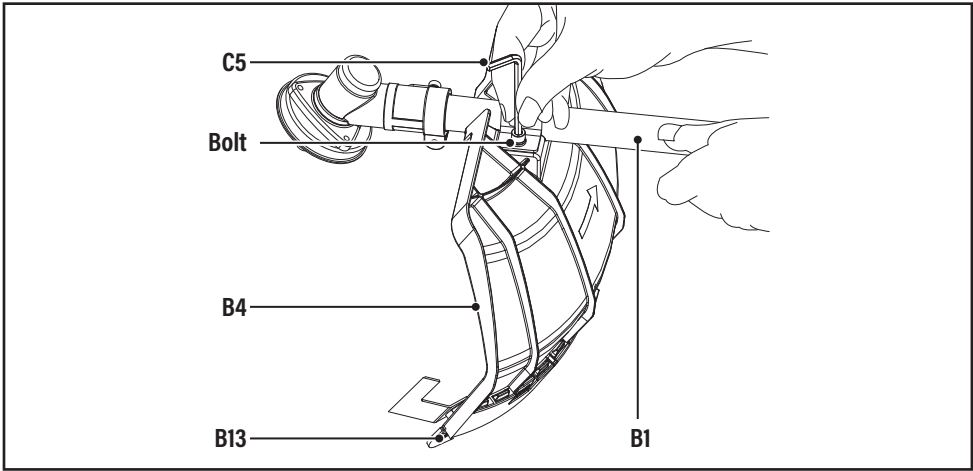

Fig. 3
2. Attach the cutting-attachment guard (B4) with the trimming guard (B13) onto the plate on the shaft tube (B1). Use the hex key (C5) to secure the parts with the 2 bolts (Fig.3).